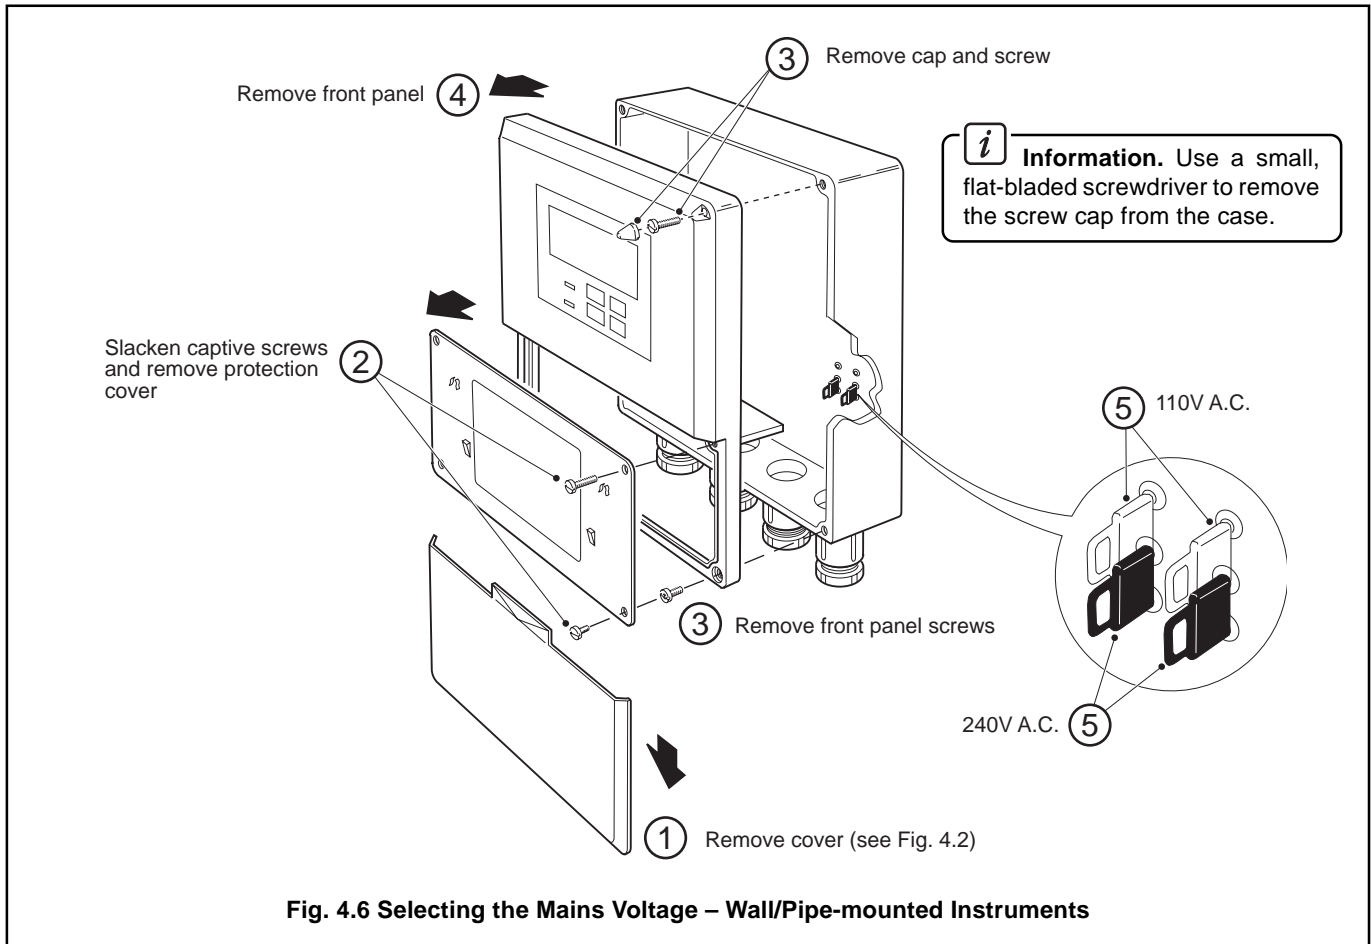

Fig. 4.6 Selecting the Mains Voltage – Wall/Pipe-mounted Instruments
4.4.1 Wall/Pipe-mounted Instruments – Fig. 4.6